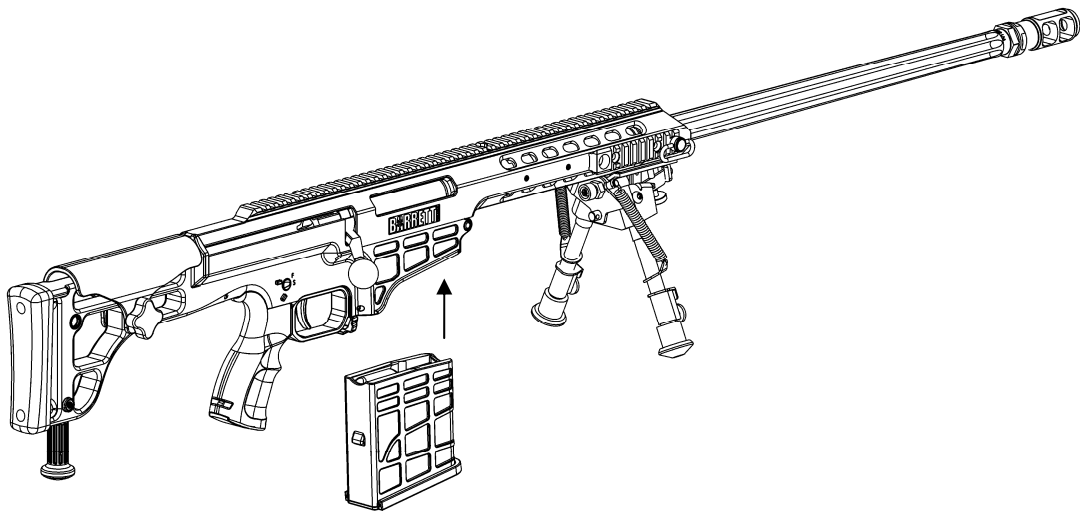

Figure 5. Inserting the magazine.
3. Insert a loaded magazine into the rifle. (Figure 5). The magazine inserts into the rifle straight in without hinging.